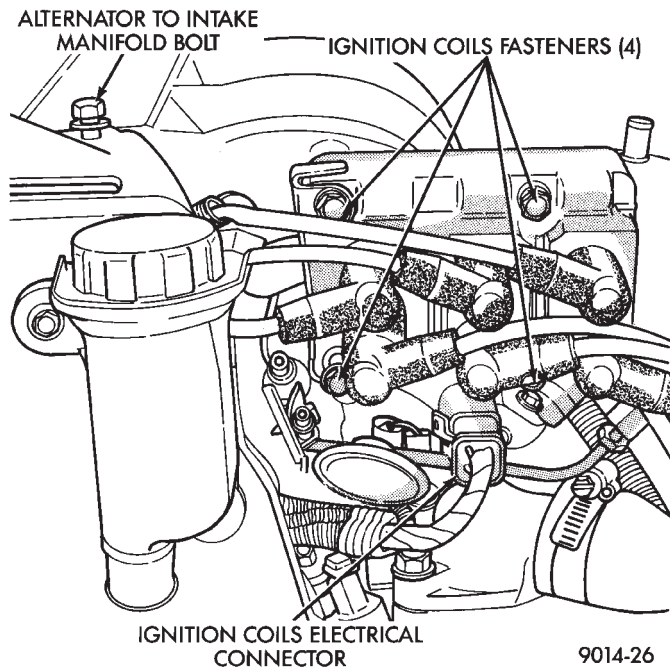

Fig. 7 Ignition Coils Electrical Connection
• **VEHICLES WITH DIRECT IGNITION SYSTEM:** Disconnect the ignition coils electrical connector (Fig. 7).
(3) Verify that all lights and accessories are OFF, and the transmission shift selector is in PARK or manual in NEUTRAL. Set parking brake.
- **VEHICLES WITH DIRECT IGNITION SYSTEM:** Disconnect the ignition coils electrical connector (Fig. 7).
(2) With all wiring harnesses and components properly connected, perform the following:
- **VEHICLES EQUIPPED WITH DIRECT IGNITION SYSTEM:** Unplug the coils electrical connector (Fig. 7).